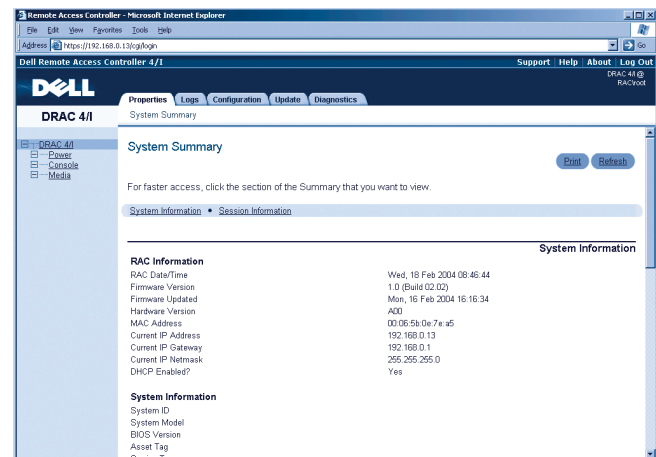

Figure 2. Main GUI page for a user in the Administrator group
**Checking user privileges.** When a user logs in from a browser, the DRAC 4 checks the user's privileges during the user authentication phase. After login, the user's privileges determine which tabs and associated subtabs are displayed on the screen. The user authentication process is designed to prevent a user who does not have sufficient privileges from using certain features. For example, a user in the Administrator group can view the tabs and subtabs of all available features after login (see Figure 2). By contrast, a user in the Guest User group is limited to seeing only the tabs and subtabs associated with the Guest User group.